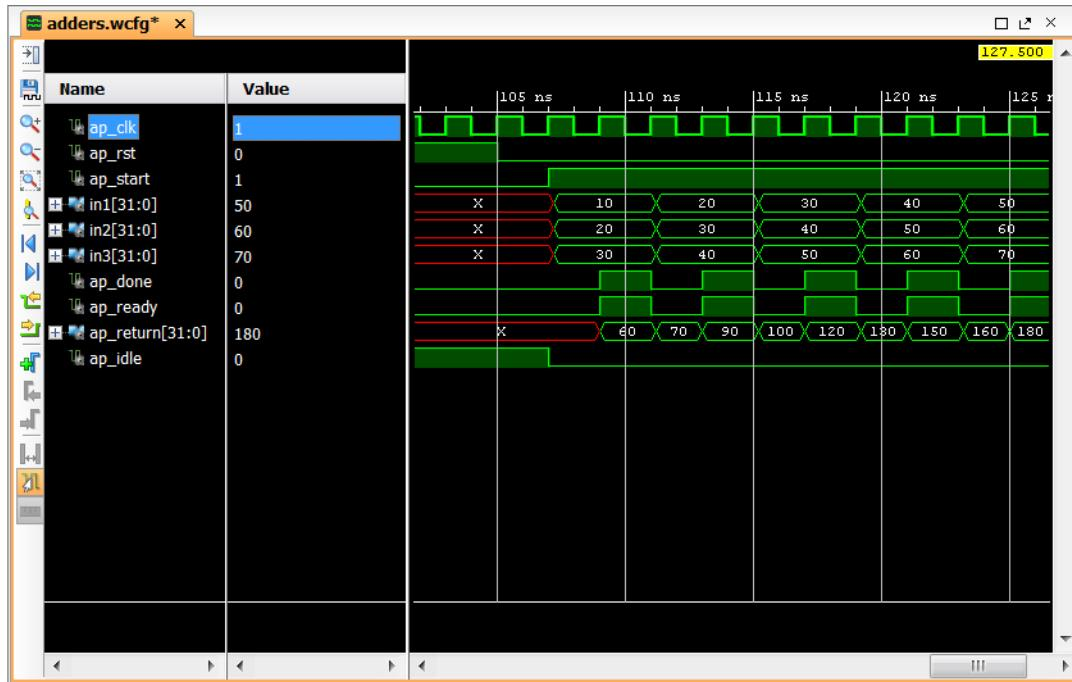

Figure 4-6: RTL Waveforms for Block Protocol Signals
- Input ports `In1`, `In2`, and `In3` are 32-bit inputs and have the I/O protocol `ap_none` (as specified by the directives in Figure 4-6).
The block-level I/O protocol allows the RTL design to be controlled by additional ports independently of the data I/O ports. This I/O protocol is associated with the function itself, not with any of the data ports. The default block-level I/O protocol is called `ap_ctrl_hs`. Figure 4-6 shows this protocol is associated with the function return value (this is true even if the function has no return value specified in the code)..
You can observe the behavior of these signals by viewing the trace file produced by RTL cosimulation. This is discussed in Chapter 7, RTL Verification tutorial, but Figure 4-6 shows the waveforms for the current synthesis results.